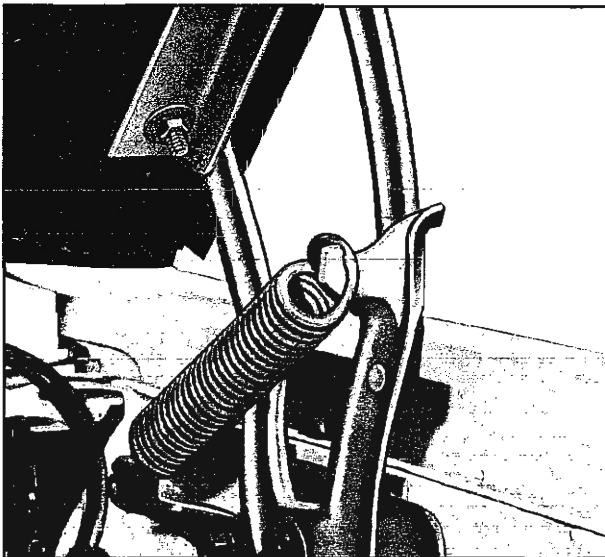

Fig. 10-2 Hood Hinge
1. Slotted holes in the hinge bracket to hood are provided to align hood fore and aft (Fig. 10-2).
The hood is mounted on hinges (Fig. 10-2) mounted to wheel house. Double assist over center springs are used (one at each hood hinge), both ends of which are fastened to the arms of the hinge. This construction provides hold-open power.